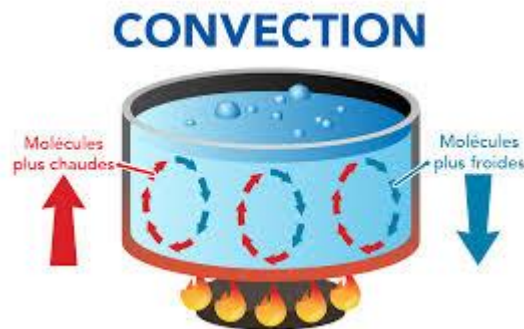

Figure 19. Convection transport
- **Description:** Heat transfer through the movement of fluids (liquids or gases) caused by temperature differences (Figure 19).